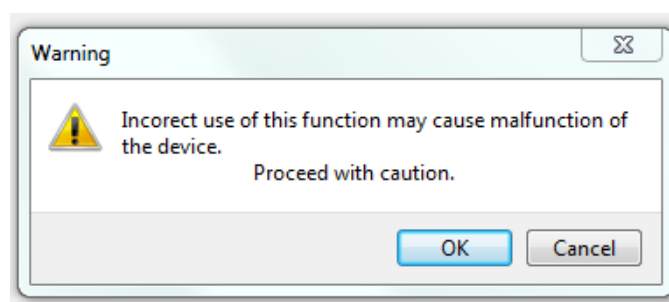

Fig. 16 Warning.
- Select: **OK** to start update (Fig. 16).